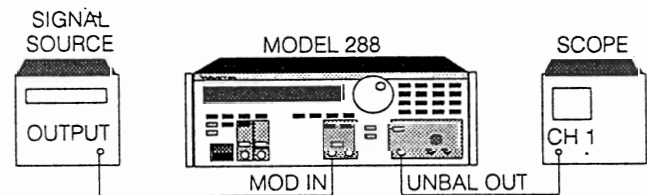

Figure 5-4. Adjust Amplitude Setup
- Connect the test equipment as shown in figure 5-4.